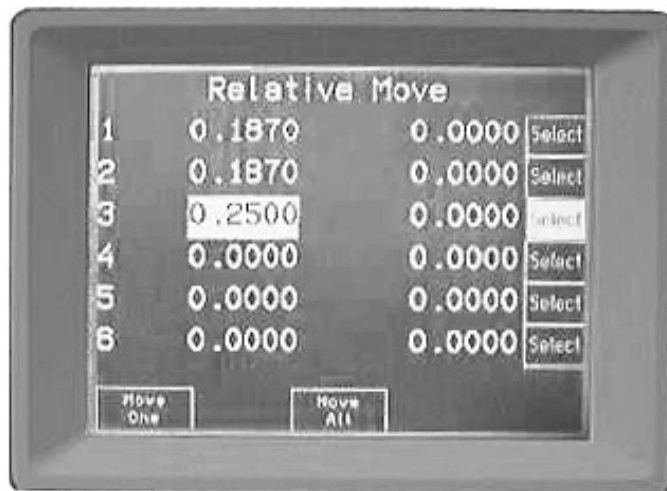

Figure 1.11: Relative Move Screen
3. When the user presses the **RELATIVE** button from the **MOVE MENU** screen, a **RELATIVE MOVE** screen displays. The user presses the axis button and enters the required parameters from the numeric keypad on the front panel, and presses the <ENTER> key. **NOTE:** The parameters are displayed in the display window as they are typed. The ESP7000 changes the parameters on the **RELATIVE MOVE** screen after the Enter key is pressed (See **Figure 1.11**).